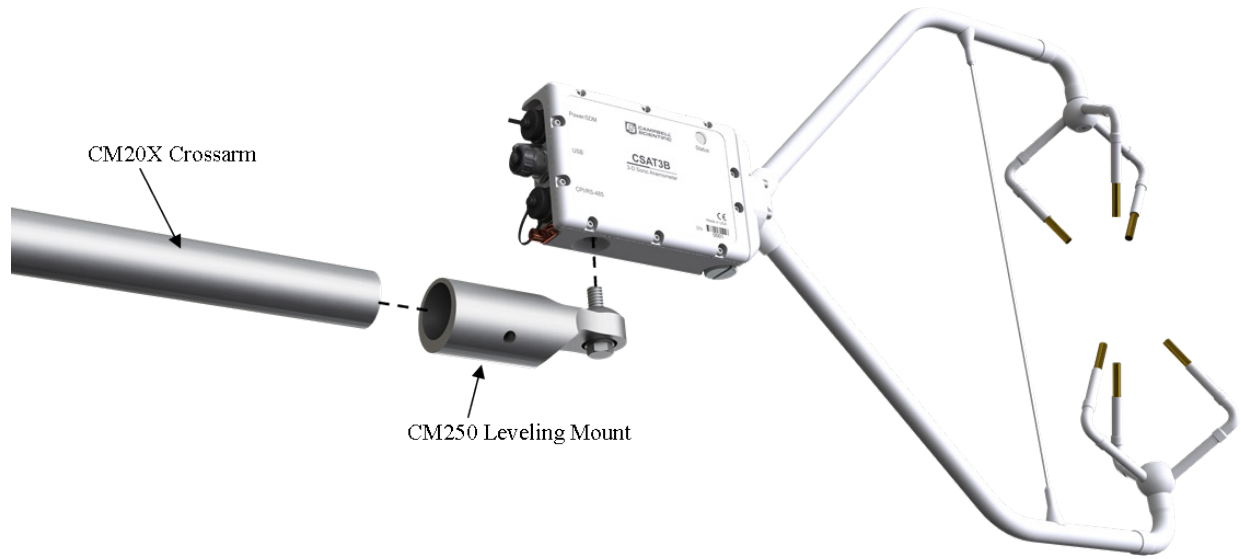

FIGURE 7-4. CSAT3B mounting
3. Attach the CM250 leveling mount (pn 26559; included with the CSAT3B) to the crossarm by tightening the set screws on the boom adapter with a 3/16-in hex socket head wrench. Refer to FIGURE 7-4.
4. Attach the CSAT3B to the leveling mount by inserting the bolt on the mount into the threaded hole on the bottom of the CSAT3B block as shown in FIGURE 7-4.